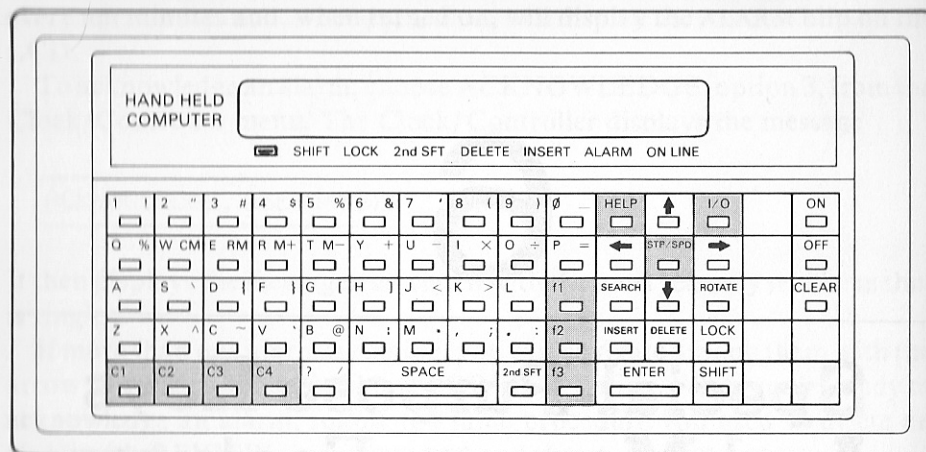

Figure 6-1. Special-purpose keys
**T**his chapter describes several special-purpose keys. The HELP key and AUTO-OFF make the HHC easier to use and make the HHC a more efficient tool. The I/O key allows you to access peripherals. The f1, f2, and f3 keys define functions. And the keys labeled C1 through C4 are reserved for use by specific application programs. In Figure 6-1 these keys are highlighted on the keyboard.